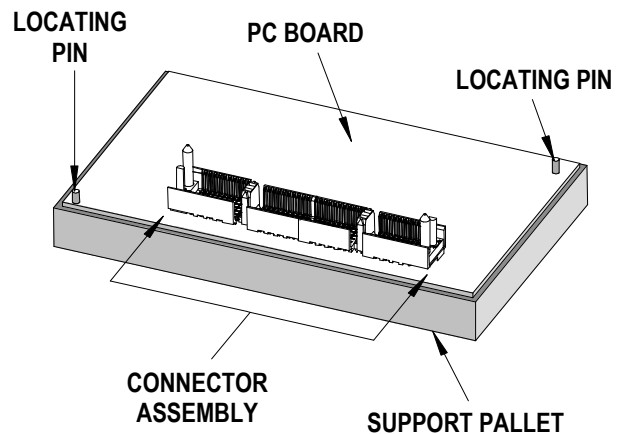

Figure 2-6
2. Locate the pre-loaded board into the support pallet (Optional). See Figure 2-6.